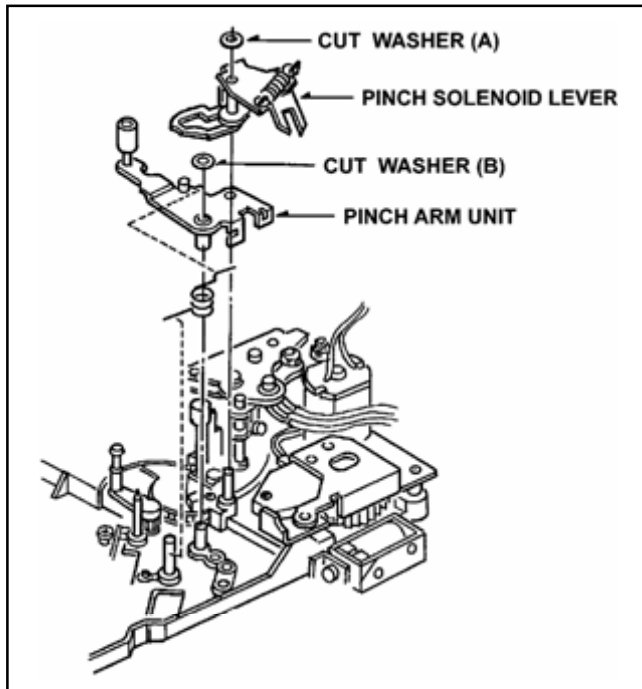

Figure 5-12-1
2. Remove the cut washer (A) and remove the Pinch Solenoid Lever as shown in Figure 5-12-1.
3. Remove the cut washer (B) and remove the Pinch Arm Unit as shown in Figure 5-12-1.